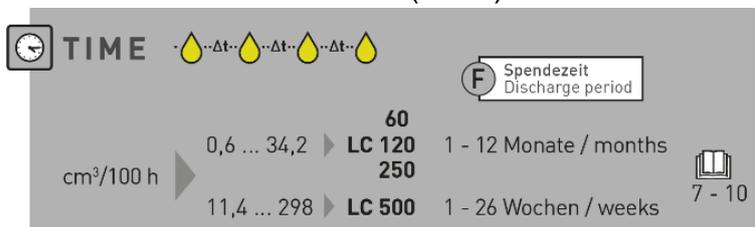

Figure 1: Operating mode TIME new version with four LC sizes (LC60 to LC500)
- Extension of the setting parameters for operating mode TIME (see figure 1):